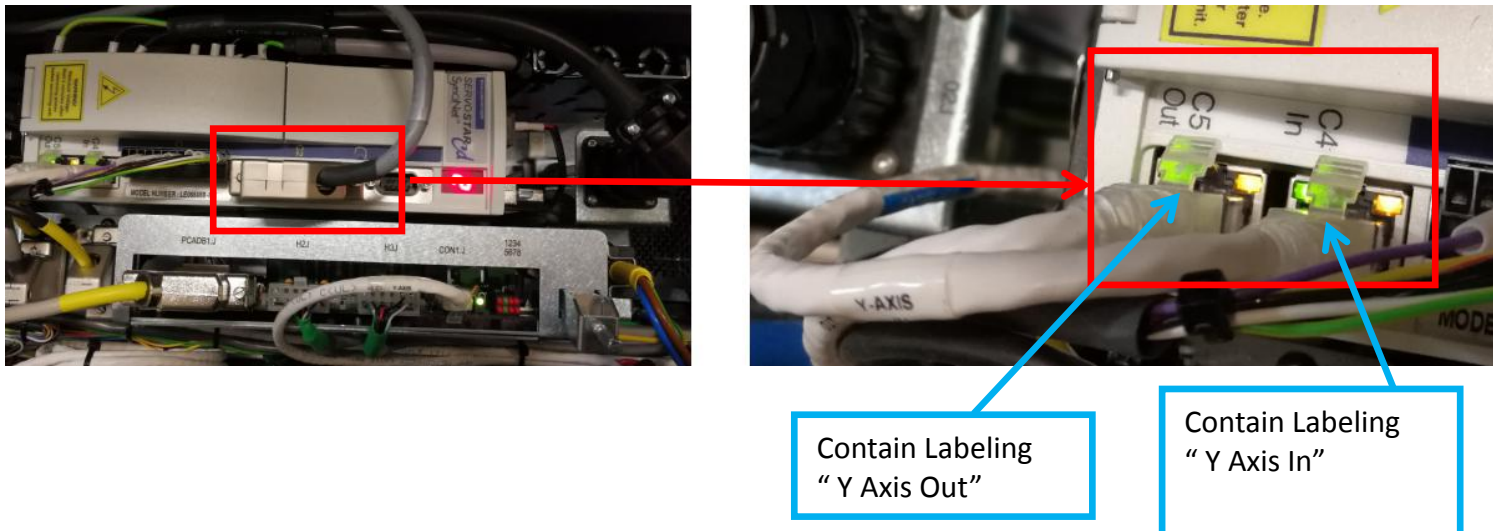

Figure 29
34. Connect 2 x Cat 5 Cable at C5 Out & C4 In as below Figure 29